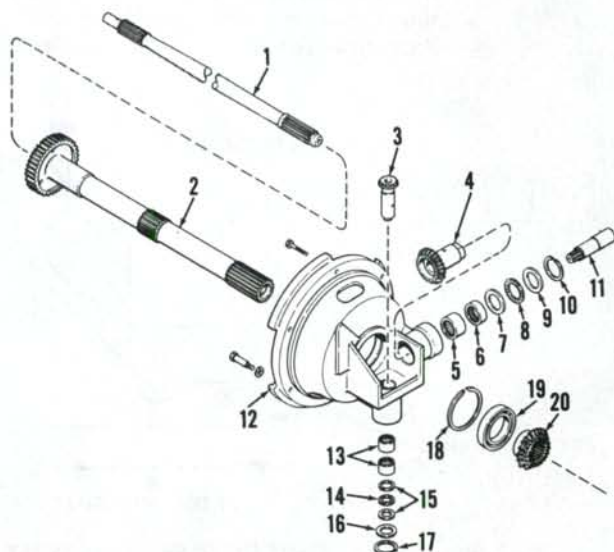

Fig. 243—Exploded view of hydraulic pump drive assembly on Model 2390, 2590, 2394 and 2594 tractors.
235. REMOVE AND REINSTALL. To remove hydraulic pump drive, first remove charge pump as outlined in paragraph 237 and dual hydraulic pump as outlined in paragraph 238. To gain access to pump drive assembly shown in exploded view in Fig. 243, tractor must be split between transmission and torque tube as outlined in paragraph 142.
Unbolt and remove pump drive assembly (items 3 through 20—Fig. 243) from torque tube. Remove snap ring (17) for charge pump drive, then remove retaining washer (16), outer and inner thrust washers and thrust bearing (items 14 and 15). Remove snap ring (10) for dual pump drive, outer and inner thrust washers and thrust bearing (items 7 through 9). Remove snap ring (18) and input gear with bearing (19 and 20). Remove charge pump drive gear (3) and dual pump drive gear (4). Remove needle bearings (5, 6 and 13) and input gear bearing (19) if renewal is necessary.
Assembly is reverse of disassembly. Select correct width snap ring (10—Fig. 243) that will give correct backlash between input gear (20) and dual pump drive gear (4); or snap ring (17) that will give correct backlash between input gear (20) and charge pump drive gear (3). Correct backlash for all gears should be 0.002-0.006 inch (0.051-0.153 mm) when measured with a dial indicator. Snap rings (10 and 17) are available in